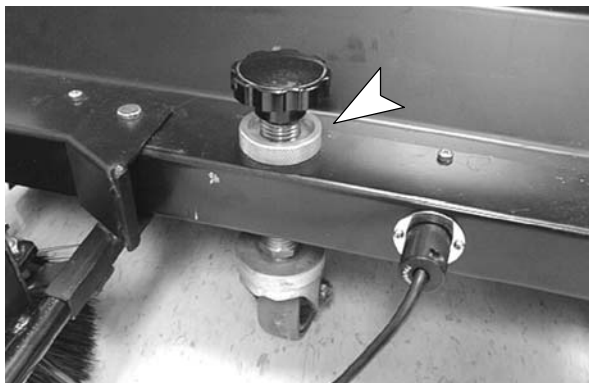

FIG. 23
2. To adjust brush height, turn off main power switch, loosen knurl locking ring below brush adjustment knob and turn knob clockwise to decrease or counter clockwise to increase pressure. Be certain to tighten down knurl locking ring and knob after adjusting, if necessary, use adjustable locking pliers to tighten knurl locking ring (Figure 23).